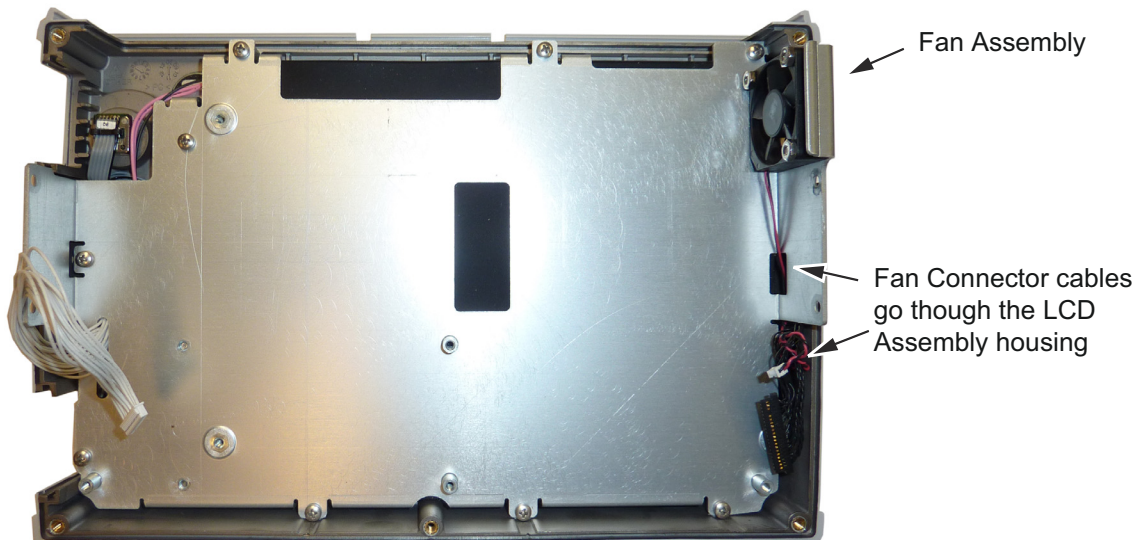

Figure 6-9. Front Panel Keypad Bezel
3. Remove the 3 screws and nuts holding the Fan Assembly to the LCD Assembly housing. Refer to (Figure 6-9).